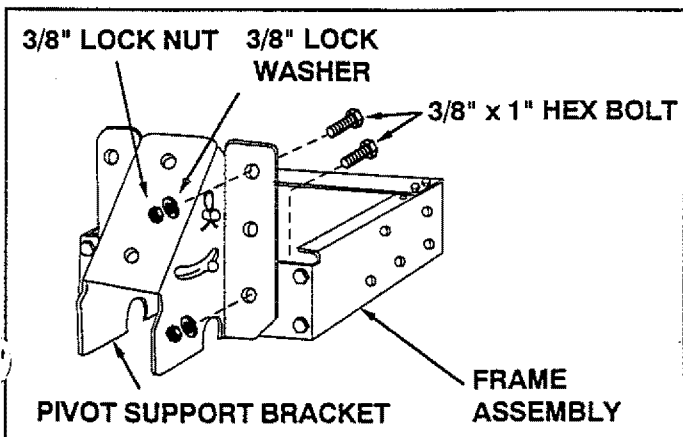

FIGURE 8
- Using the top and bottom holes on both sides of the pivot support bracket, attach it to the outside of the front plate of the frame assembly using four 3/8" x 1" hex bolts, lock washers and lock nuts. **Tighten.** See figure 8.